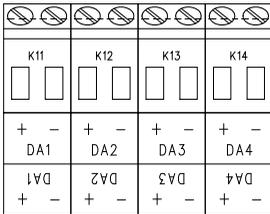

Fig. 18
1. Connect the downstream device to the corresponding digital outputs (terminals "DA1" to "DA4") of the EK280 (p. Fig. 18).